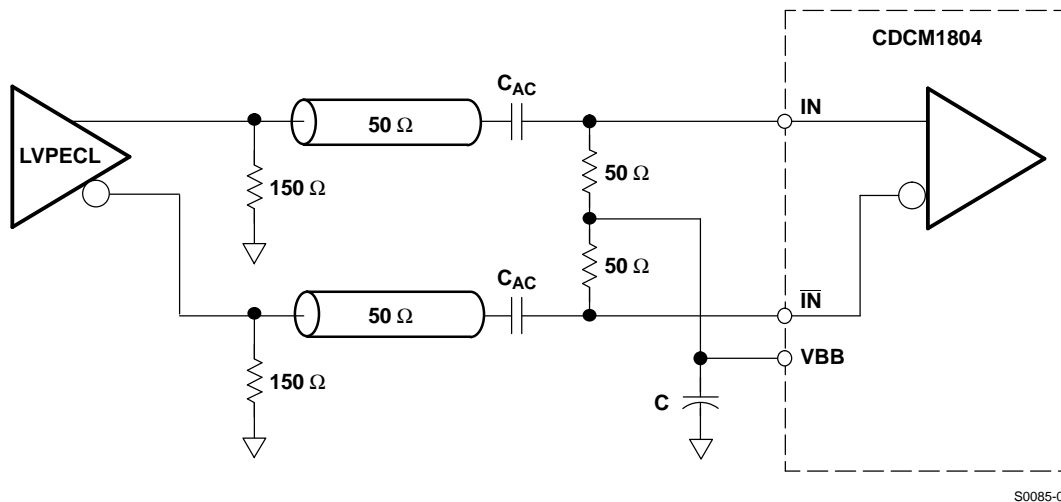

Figure 12. Recommended AC-Coupling LVPECL Receiver Input Termination
For optimized noise performance, it is recommended to properly terminate the PCB trace (transmission line). If a differential signal drives the CDCM1804, then a 100- $\Omega$  termination resistor is recommended to be placed as close as possible across the input terminals. An even better approach is to install  $2 \times 50 \Omega$ , with the center tap connected to a capacitor (C) to terminate odd-mode noise and make up for transmission-line mismatches. The VBB output can also be connected to the center tap to bias the input signal to ( $V_{DD} - 1.3 \text{ V}$ ) (see Figure 12).